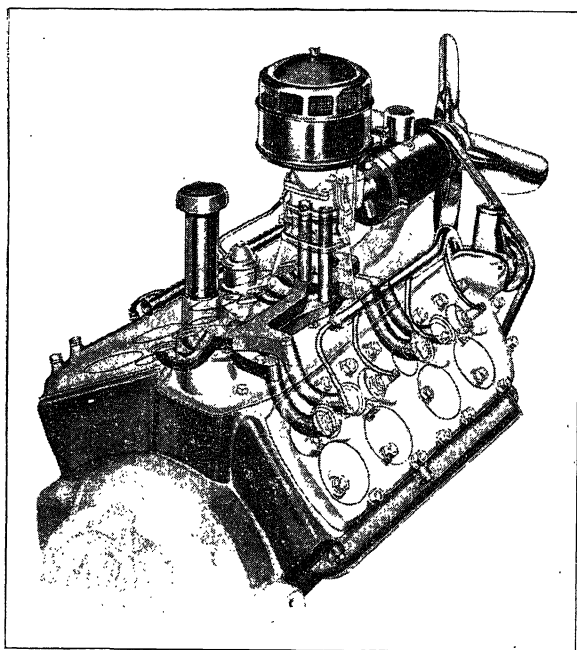

Fig. 9. Ford "V-8" Intake Manifold System
**Ford "V-8" Intake Manifold.** The intake manifolding system of the Ford "V-8", as well as the down-draft carburetor features are illustrated in Fig. 9. It will be noted here that the two barrels of the down-draft carburetor are connected with the riser tubes
Exhaust from the engine is conducted through passages cast in the cylinder block to the exhaust manifolds which are bolted to the outer edges of the two cylinder blocks. These passages are not shown in the phantom view, Fig. 9.